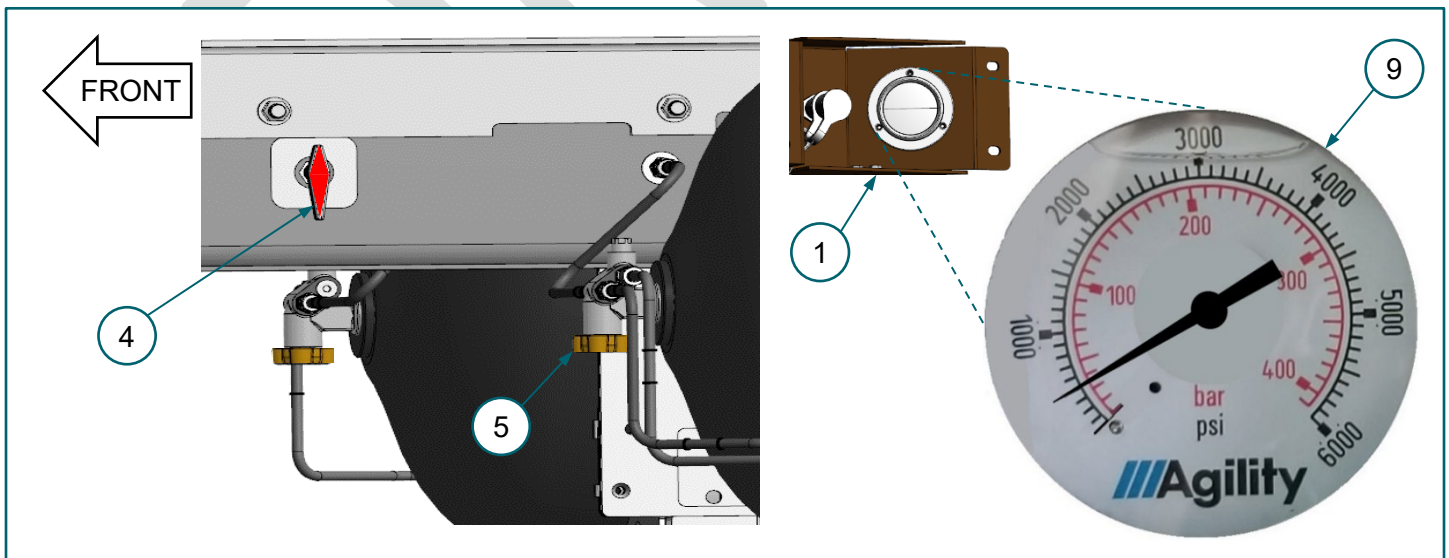

FIGURE 4-3. Fuel fill panel, (9) HP gauge reading 500 psi, (4) 1/4-turn manual shutoff valve, (5) DS cylinder manual valve
3. Open 1/4-turn manual shutoff valve. **FIGURE 4-3**